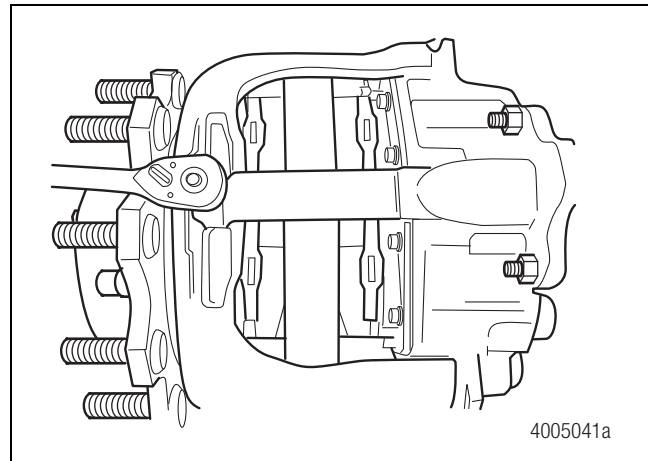

Figure 5.25
5. Install the pad retainer and pad retainer bolt. Tighten the bolt to 25-30 lb-ft (34-40 N•m). Figure 5.25. **⚠**